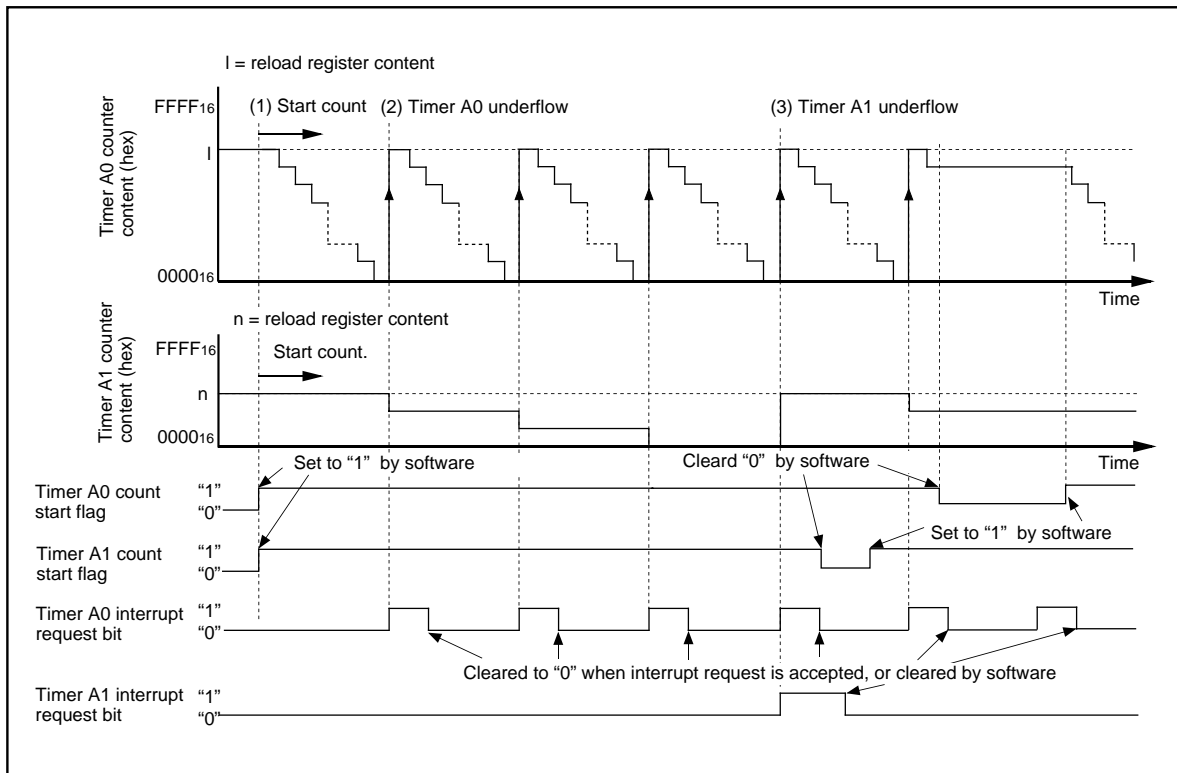
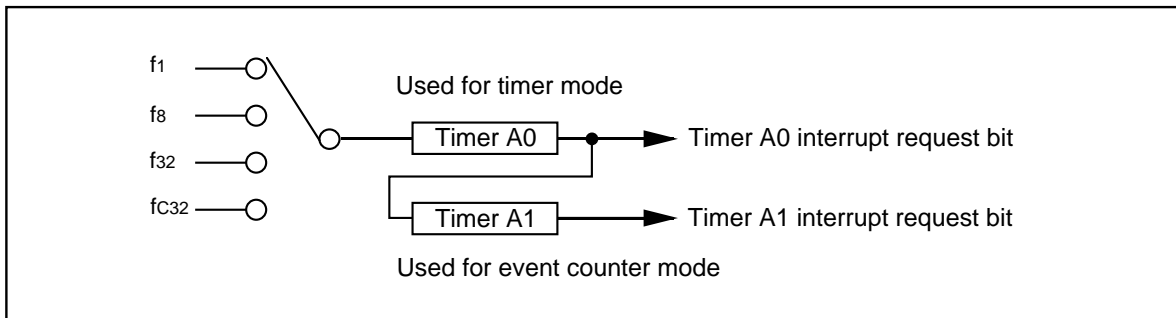
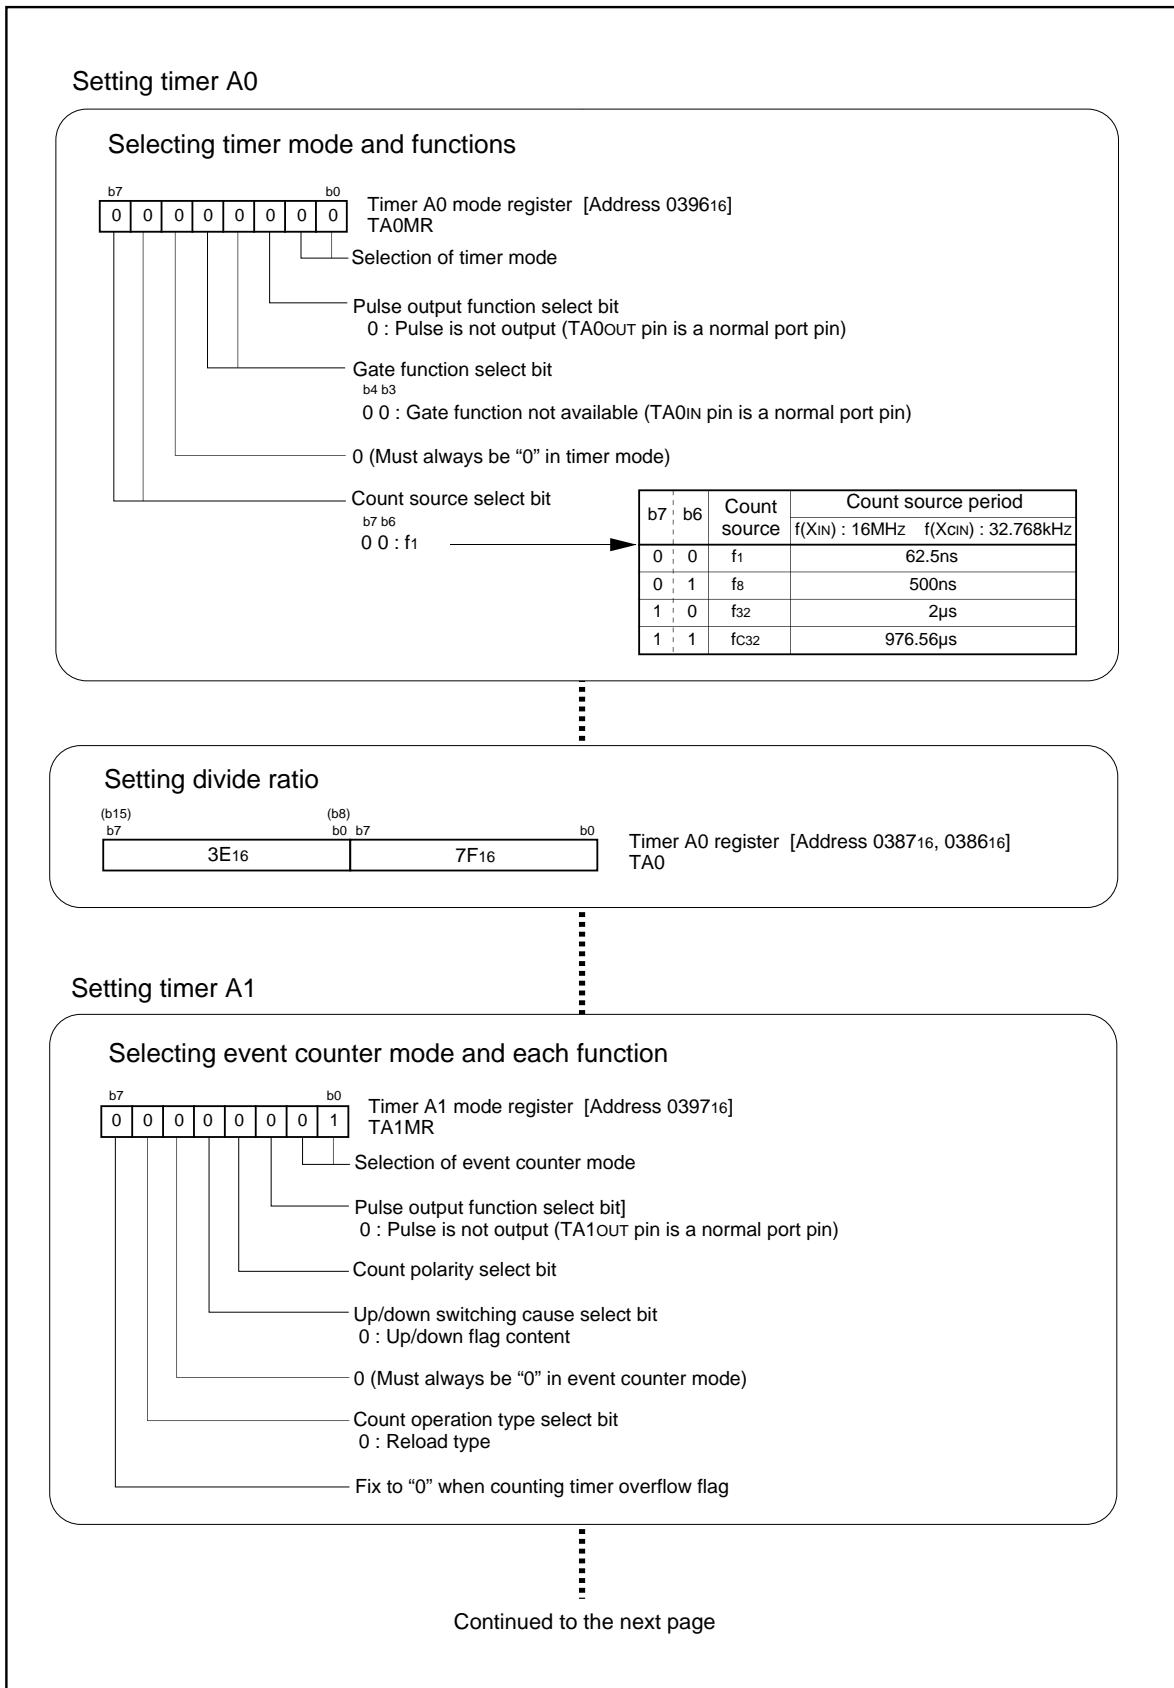

Figure 3.1.1. Operation timing of long-period timers
Figure 3.1.2. Connection diagram of long-period timers
Figure 3.1.3. Set-up procedure of long-period timers (1)
**Overview** In this process, Timer A0 and Timer A1 are connected to make a 16-bit timer with a 16-bit prescaler. Figure 3.1.1 shows the operation timing, Figure 3.1.2 shows the connection diagram, and Figures 3.1.3 and 3.1.4 show the set-up procedure.